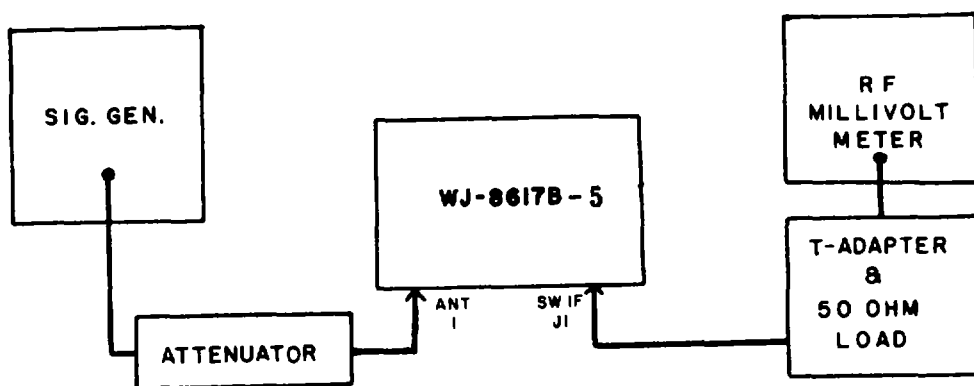

Figure 4-1. IF Amplifier Performance Test, Equipment Connections
1. Connect the test equipment as illustrated in **Figure 4-1**.